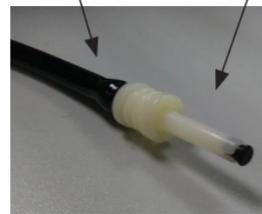

Figure 2.13
3. Air Path Connection: Take a piece of air tube (0.5~1m long,  $\Phi 8.0\text{mm}/\Phi 4.0\text{mm}$  diameter). Attach the NIBP connector with a connector plug on to one end of the air tube. Connect the other end to the 3-way connector. Connect the other 2 ends of the 3-way connector to a Mercury Sphygmomanometer as shown in Figure 2.13.